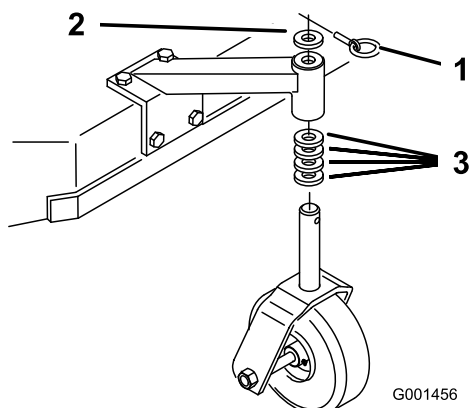

Figure 12
1. Using the Height-of-Cut Chart, adjust the caster spacers to match with the axle hole selected (Figure 12).
2. Remove the latch pin, slide the caster from the support, and change the spacers (Figure 12).
3. Install the caster in the support and insert the latch pin (Figure 12).